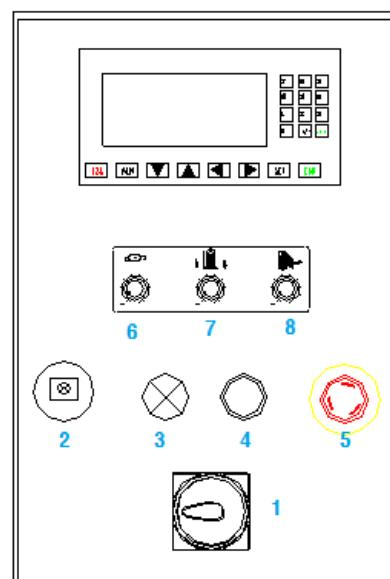

FIG 2-30
- Turn the master switch to ON (FIG 2-30 POS.1);
- The buzzer (FIG 2-30 POS.2) sounds for three times, and then the machine stops automatically;
- Press the button with light (FIG 2-30 POS.3), the light on, and the frequency converter starts;
- Eliminate possible emergency stop problems, and turn the emergency stop button clockwise to deactivate the emergency stop (FIG 2-30 POS. 5);
- Press the start button (FIG 2-30 POS.4), and wait for a few seconds until the power indicator light is on (FIG 2-30 POS.3); so the machine goes into the standby mode!